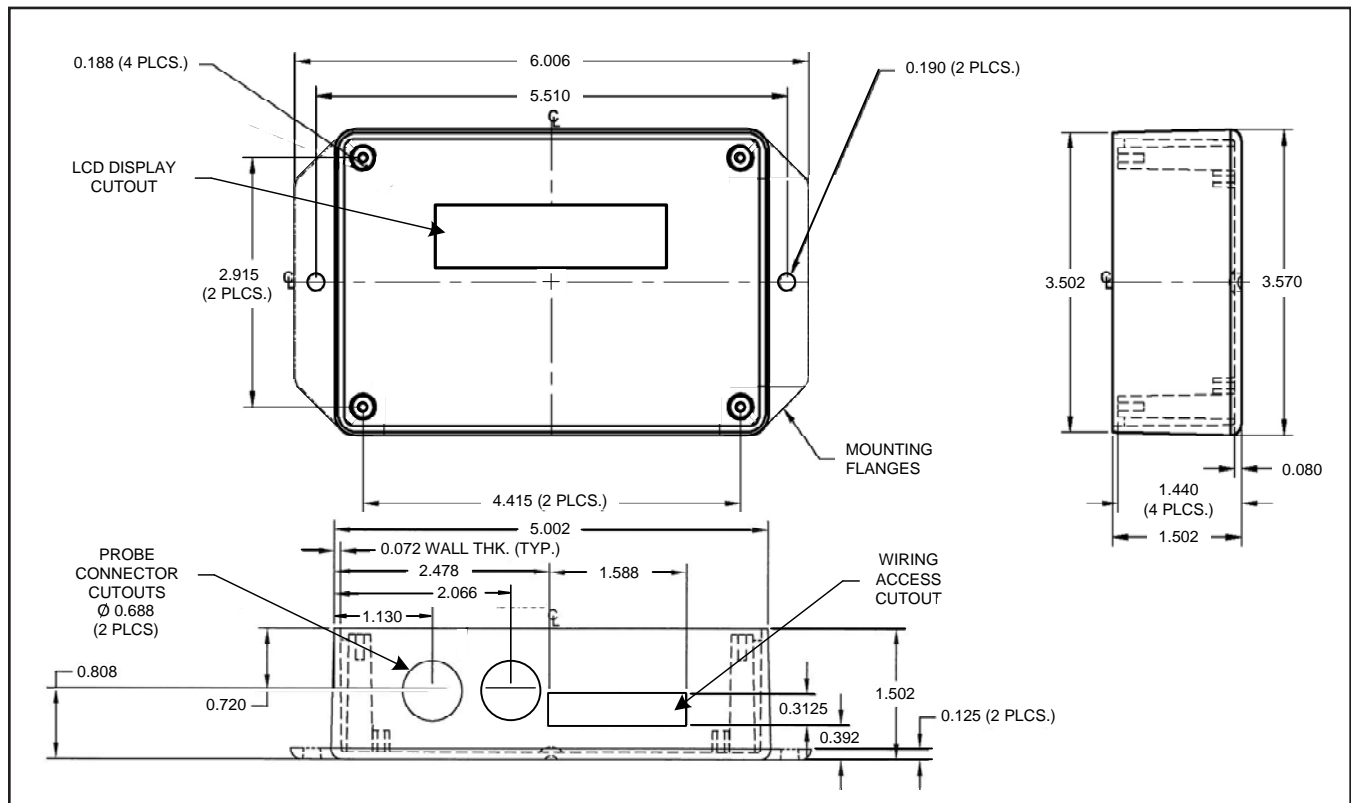

Figure 4. GF-2100-A/GF-2200-A Transmitter Mechanical Detail Drawing
Mount the transmitter upright in a field accessible location with sufficient service clearance to permit cover removal. The enclosure (Figure 4) is designed to accept signal and power wiring at the bottom-right of the enclosure. Ensure that the planned location of the transmitter will allow each sensor probe cable to reach the receptacle at the bottom-left of the transmitter enclosure.
2. ☐ Refer to Figure 4 and mark the two mounting holes located on each of the side flanges of the transmitter.